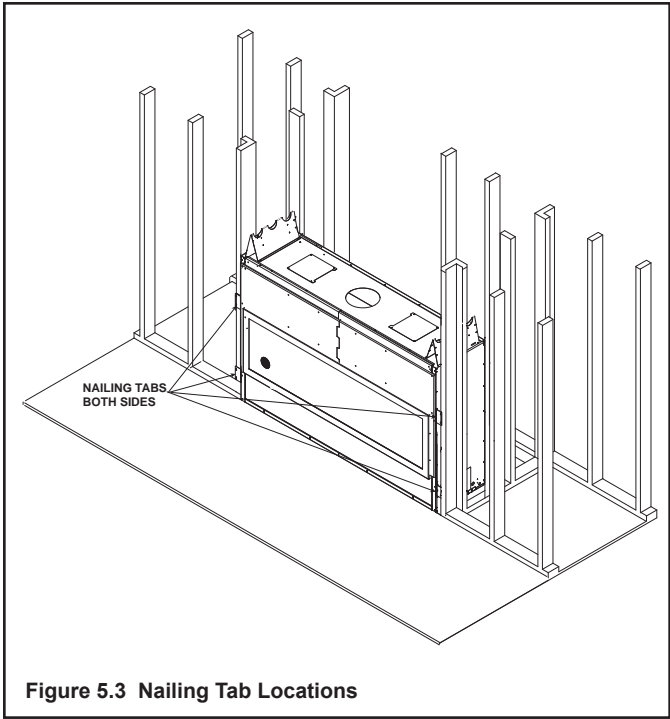

Figure 5.3 Nailing Tab Locations
**Note:** Figure 5.2 and Figure 5.3 show the fireplace installed on the floor. However, this fireplace can be elevated off the floor provided that the fireplace is properly supported by framing materials and the ceiling clearances are maintained.